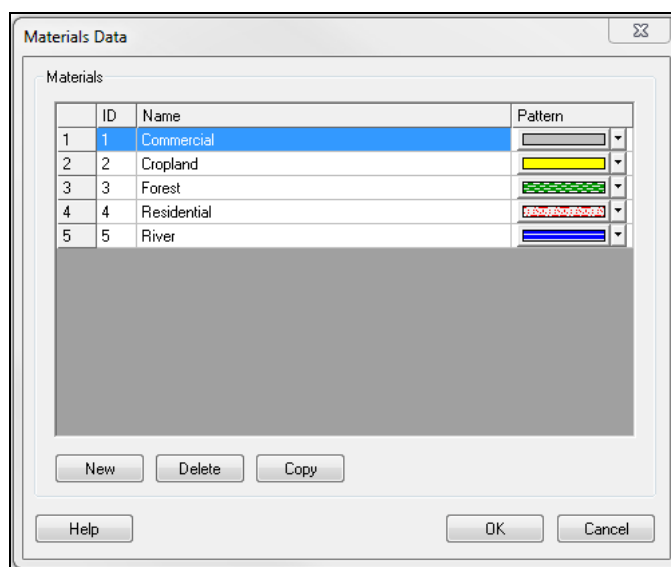

Figure 1 Materials Data headings
3. Rename the new material as “River”. This is also where the colors and patterns for each material may be chosen, as shown in Figure 1 below. To change the pattern, click on the color of the material to open the *Pattern Attributes* dialog.